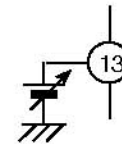

Fig.2
5. Swiath(Pin 13) can be changed by supplying some voltage as Fig.2.